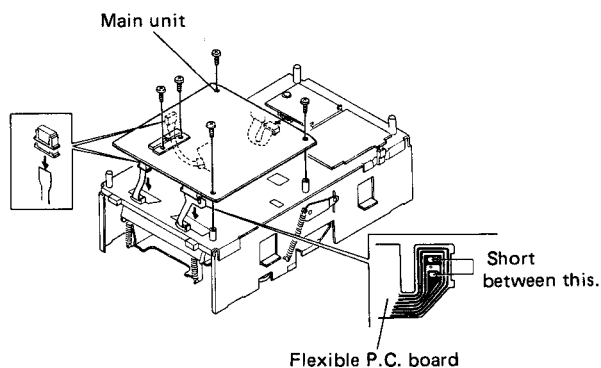

Fig. 6
2. For pickup unit (CGY1006) handling, please refer to "Disassembly" (Fig. 6). During replacement, handling precautions shall be taken to prevent an electrostatic discharge (protection by a short pin).